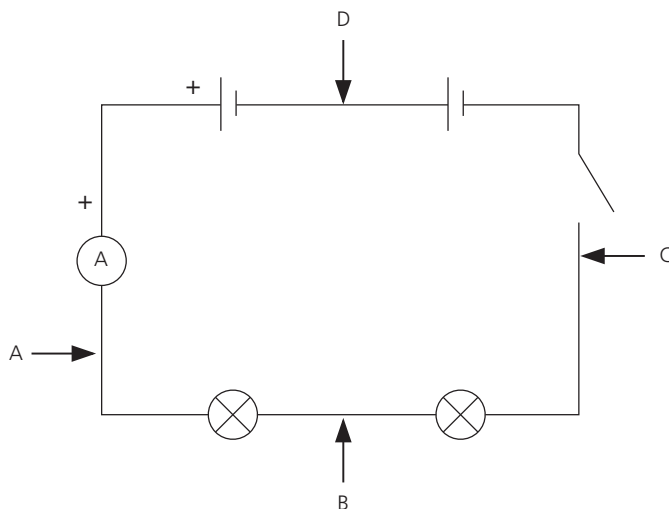

Figure 2
- 2 a Connect two cells and two lamps *in series* with the ammeter as shown in Figure 2. The + terminal of one cell should be connected to the – terminal of the other. When the switch is closed and both lamps are on, record the current reading through the ammeter at A in Table 1.